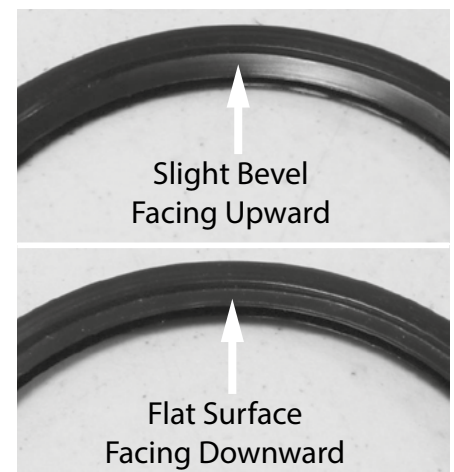

Figure 25 - Orient exhaust gasket
- 50 Locate the exhaust gasket provided in the kit. Orient gasket so side with small flat surface is facing downward. The side facing upward will have a slight bevel. See Figure 25 as reference.